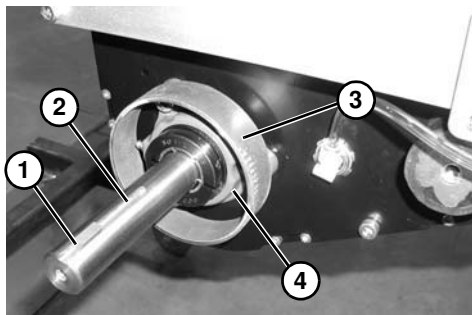
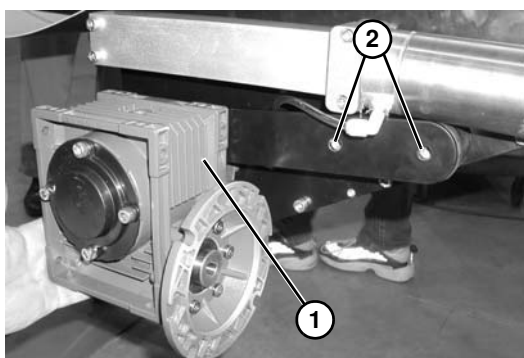

Figure 41
Figure 43
3. Install key (**Figure 41, item 1**) on drive shaft (**Figure 41, item 2**). Install cover (**Figure 41, item 3**) over bearing housing (**Figure 41, item 4**).
5. Slide gearmotor assembly (**Figure 43, item 1**) on to drive shaft (**Figure 41, item 2**). Tighten mounting screws (**Figure 43, item 2**) to 22.5 Nm (200 in lbs).